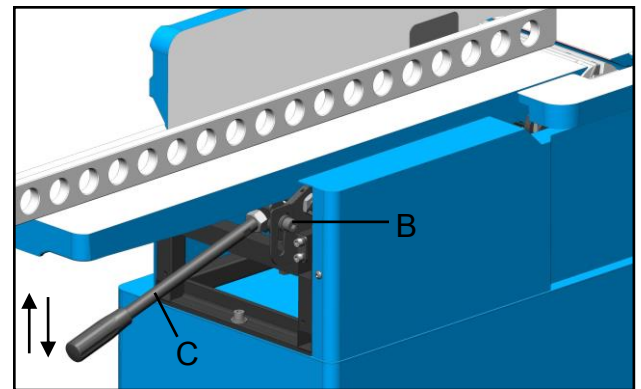
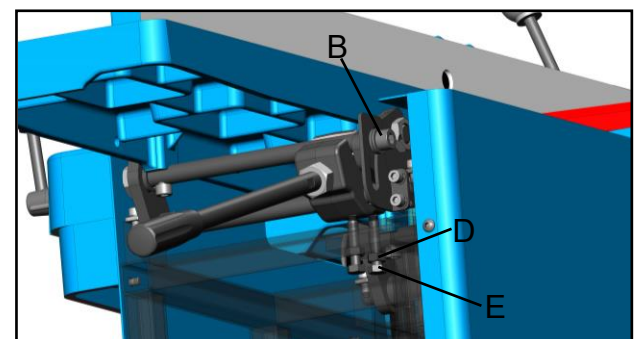

Fig. 7
Fig. 8
5. Loosen the CAP screw (B, Fig. 7) by 8mm Hex. wrench.
6. Push up or down the height adjustment handle (C, Fig. 7) to adjust the outfeed table height so that the knife tip barely touches the straight-edge.
7. Re-tighten the CAP screw (B) to secure the outfeed table in position.
8. If the outfeed table couldn't low to correct position release the Hex. nut (D) then loosen the Hex. bolt (E), Fig. 8.
9. Lower the outfeed table to the location of the appropriate by height adjustment handle (C) then tighten the CAP screw (B).
10. Re-tighten the Hex. nut (D)
11. Re-tighten the Hex. bolt (E).